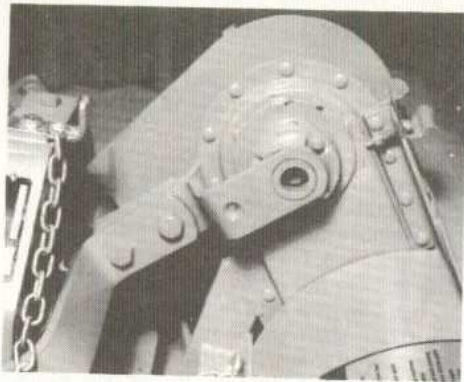

FIG. 48
1. Remove upper link arm, Fig. 48.